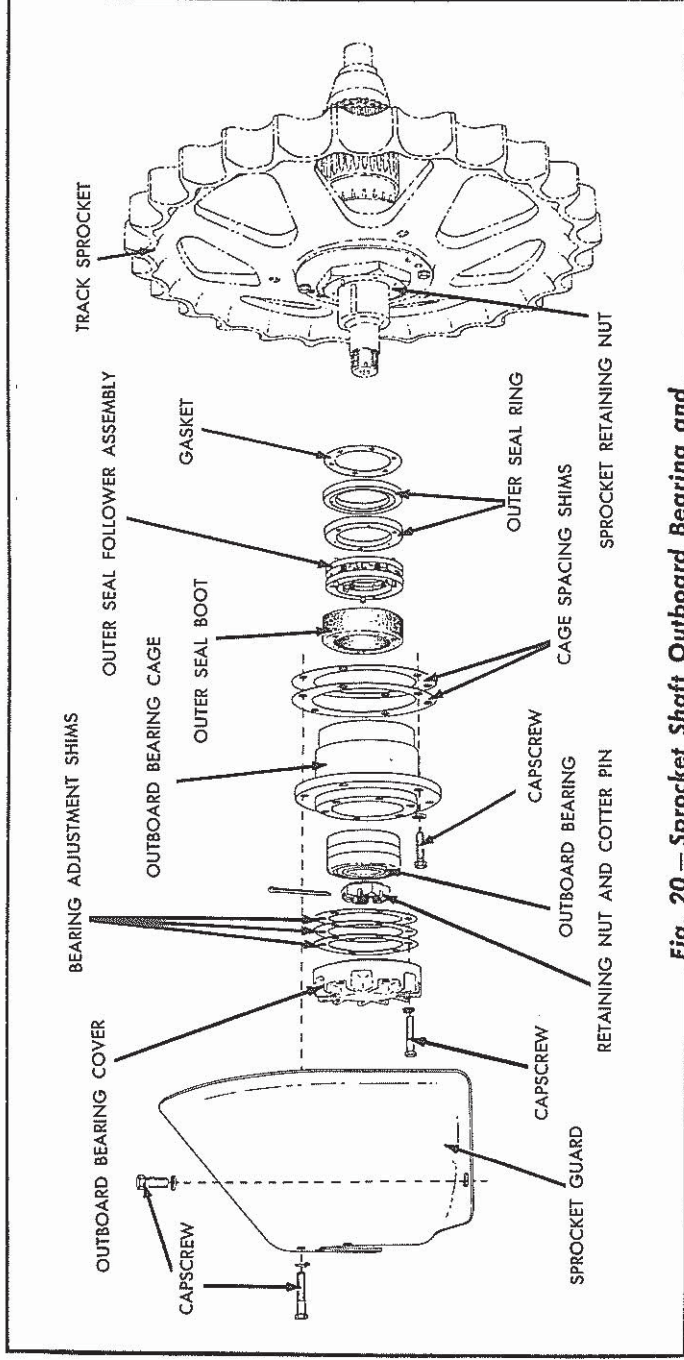

Fig. 20 — Sprocket Shaft Outboard Bearing and Outer Seal Details
2. To Install the Outer Seal Assembly (Fig. 20)